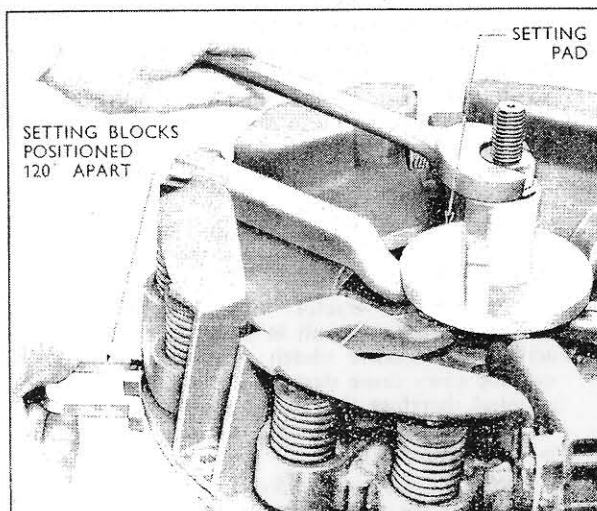
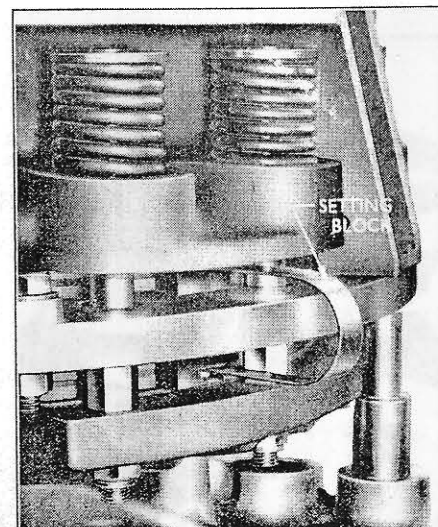

Fig. 6
Fig. 7
2. Fit the setting pad T.7502-2/d over the centre pillar of the assembly fixture, so that the flat side of the pad contacts the transmission clutch release lever adjusting screws. Fit the flat washer and nut to the centre pillar and screw down the nut until the setting blocks T.7502-2/e can be inserted between the centre drive plate and the pressure plates. (See Fig. 6.) The three setting blocks should be positioned 120° apart and **must** be touching the outer periphery of the clutch friction discs. (See Fig. 7.)